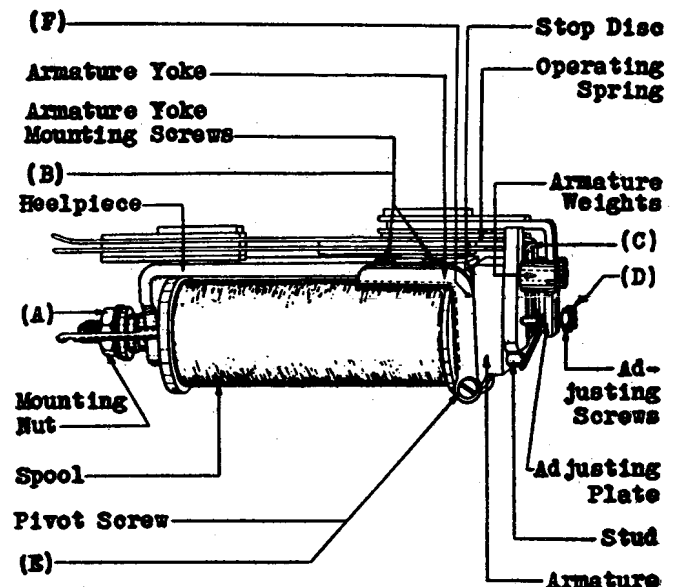

Fig. 4 - 366-type Relay
2.22 Relay Mounting: Fig. 4(A) — The spool shall be fastened securely to the heelpiece and the heelpiece shall be fastened securely to the base plate. The base plate shall be fastened securely to the mounting strip.
2.24 Tightness of Armature Yoke: Fig. 4(B) —
2.25 Separation Between Springs: Fig. 4(C) —
2.26 Tightness of Adjusting Screws: Fig. 4(D) —
2.27 Armature Movement: Fig. 4(E) — The armature shall move freely on its pivot screws.
2.28 Clearance Between Armature and Yoke: Fig. 4(F) — The armature shall clear the sides of the armature yoke by